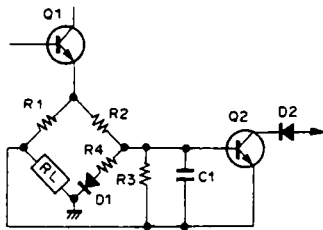

Fig. 4-25 Overload Detector
The overload detector circuit incorporates the load (RL) in one side of a Wheatstone bridge (see Fig. 4-25). The base and emitter of a sensing transistor (Q2) are connected to the opposite corners of the bridge, so if RL decreases, Q2 will become forward biased. If RL falls below a prescribed value, Q2 will conduct, and Q5 will turn on. C4 will rapidly discharge. As consequence, Q6 will turn off and the relay will become re-energized, thus causing the output circuit to open.